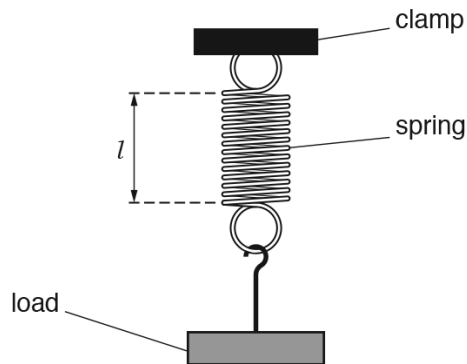

Fig. 3.1
The apparatus is shown in Fig. 3.1.
- (a) The stretched length l of the spring, indicated in Fig. 3.1, is to be measured.